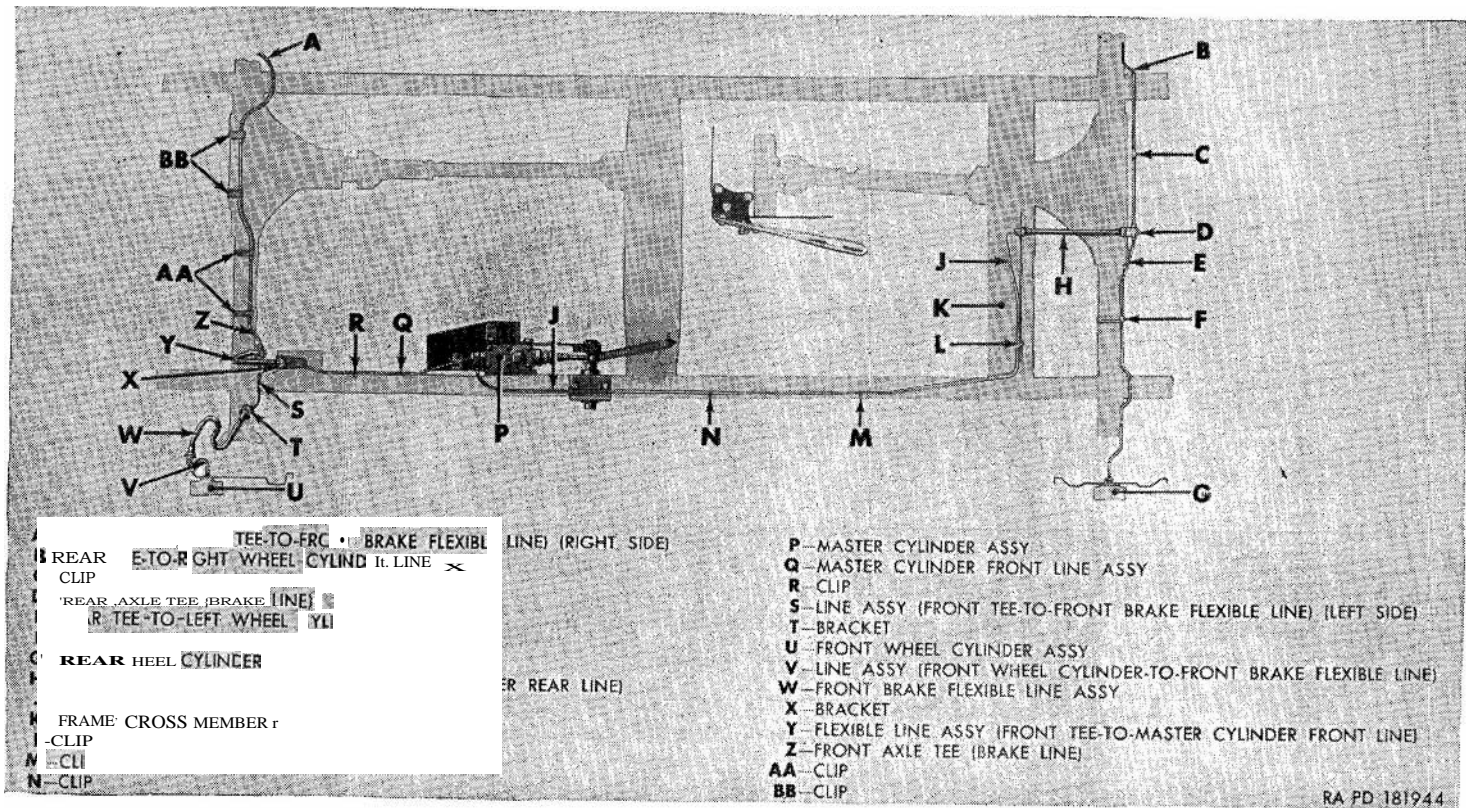

Figure 162. Service brake system arrangement.
*Note.* The key letters noted in parentheses are in figure 162, except where otherwise indicated.